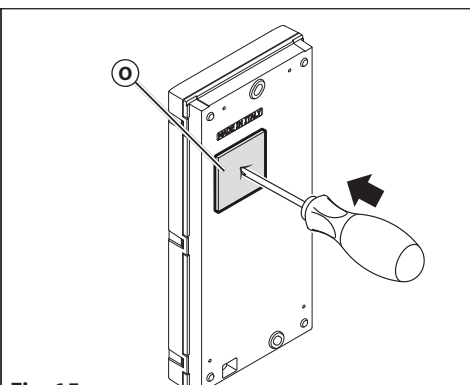

Fig. 15
2. Make a hole in the middle of the cable hole gasket (O) placed in the back side with a screwdriver (Fig. 15).
3. Pass the cables through the hole (O) and mark the fixing holes (P), make the holes and fix the device with the provided wall plugs